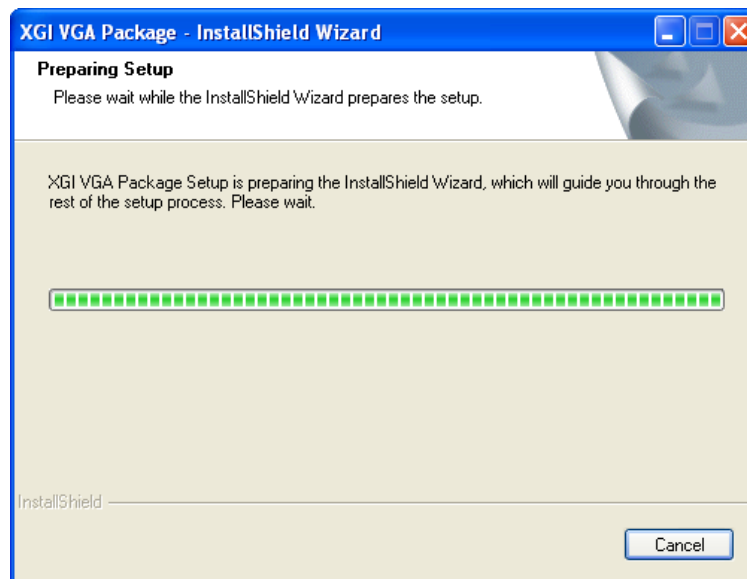

Figure 8-15: Preparing VGA Driver Setup
Step 7: The screen in **Figure 8-15** appears.
Step 8: Double-click the setup icon in **Figure 8-15**.
Step 9: The setup program is prepared as shown in **Figure 8-15**.